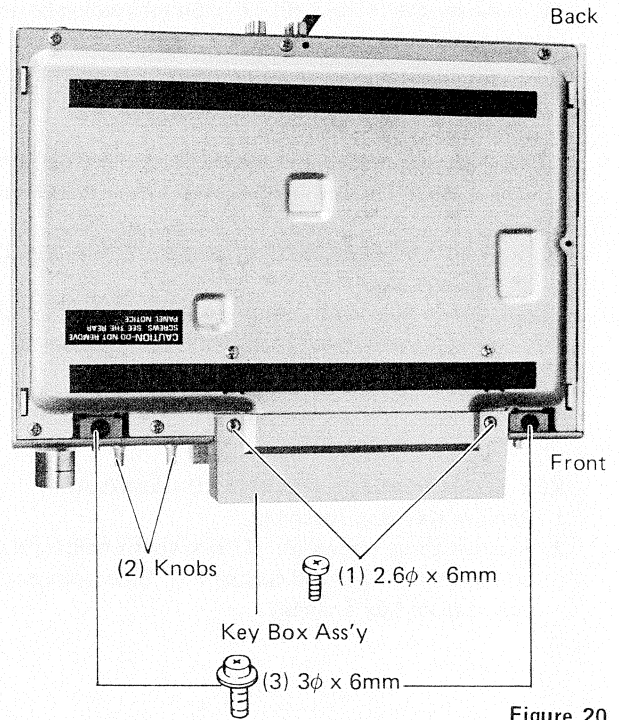

Figure 20
2. Remove two select knobs (2) as shown in Figure 20.
3. Remove two screws (3) (3φ x 6mm) holding bottom plate and panel from back side and two screws (4) (3φ x 6mm) holding jack plate and panel from back side as shown in Figure 20 and 21.